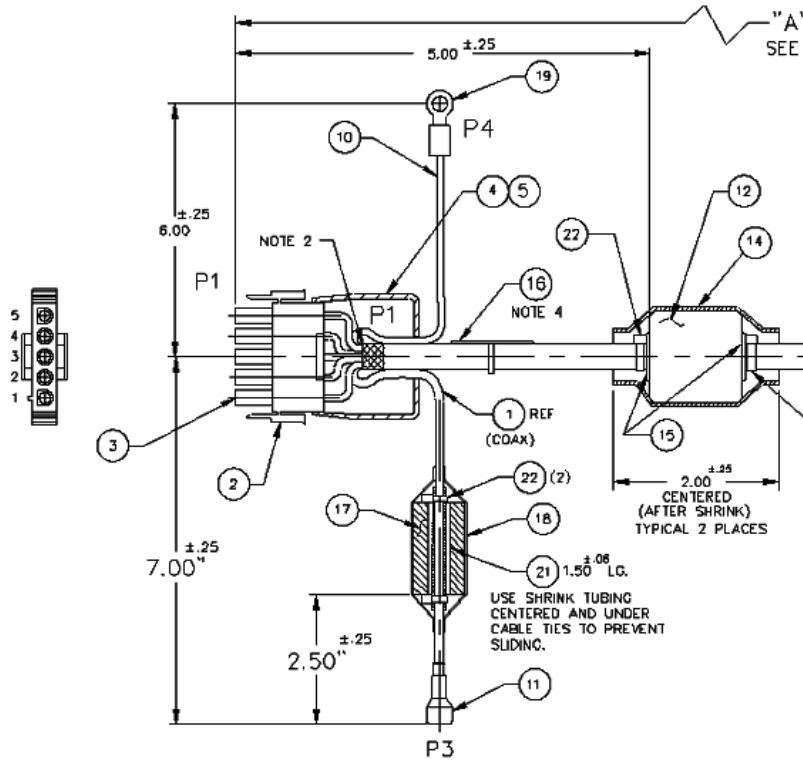

Figure 10: P1, P3 and P4 Connectors
3. Assemble connectors P1, P3 and P4 as shown in Figure 10: P1, P3 and P4 Connectors.